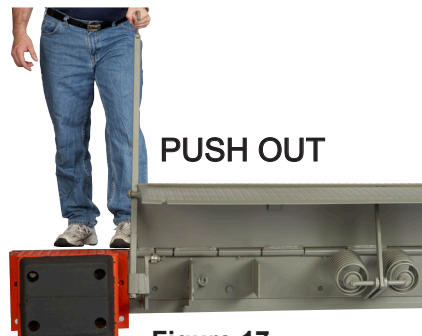

Figure 17
- c. Push forward on operating handle against the rivet, rotating leveler out onto transport vehicle bed. See Figure 17.